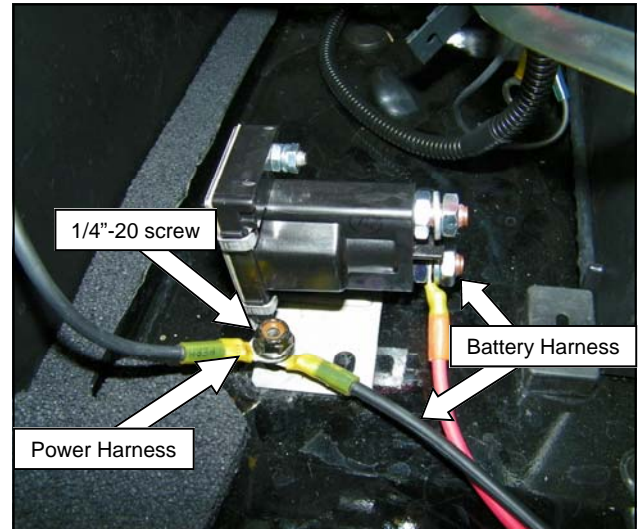

Fig. 6
6. Position solenoid near the battery, see figure 6. Remove rubber plug from frame of vehicle. Use this hole for mounting solenoid. Attach 10 Ga. Red wire from battery wire harness to R2 post on the solenoid and the other end to the positive (+) terminal on the battery. Attach 10 Ga. Black wire from same harness to solenoid with 1/4-20 x 1" long hex head cap screw and fasten other end to the negative (-) terminal on the battery as shown in figure 6.